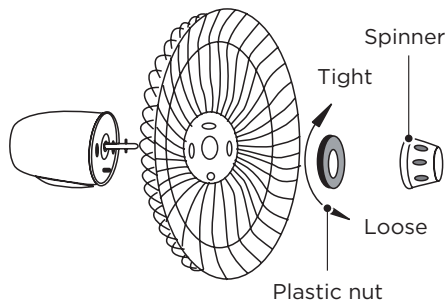

Fig.5
- 1 Unscrew the spinner clockwise (or take the spinner out from the bag) and the plastic nut counter clockwise to remove both of them. Fix the rear guard to the motor then tighten the plastic nut again. (Fig. 5)